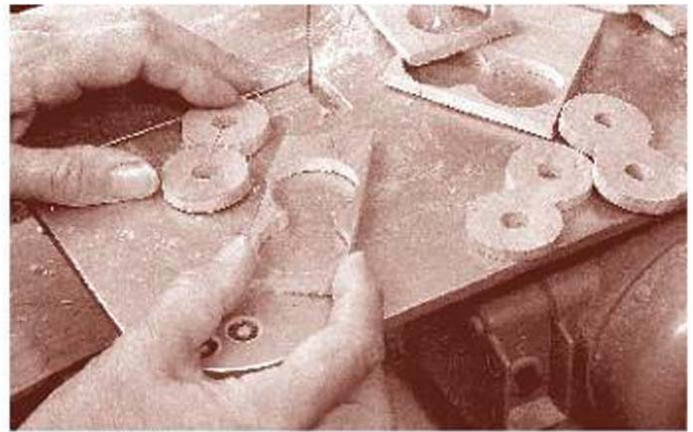

FIGURE 27-5
- 5** With at least 52 links drawn and drilled, then move to the scroll saw and carefully fret them out (Figure 27-5). Don't worry too much if the profiles are askew, as long as the holes are perfectly placed.